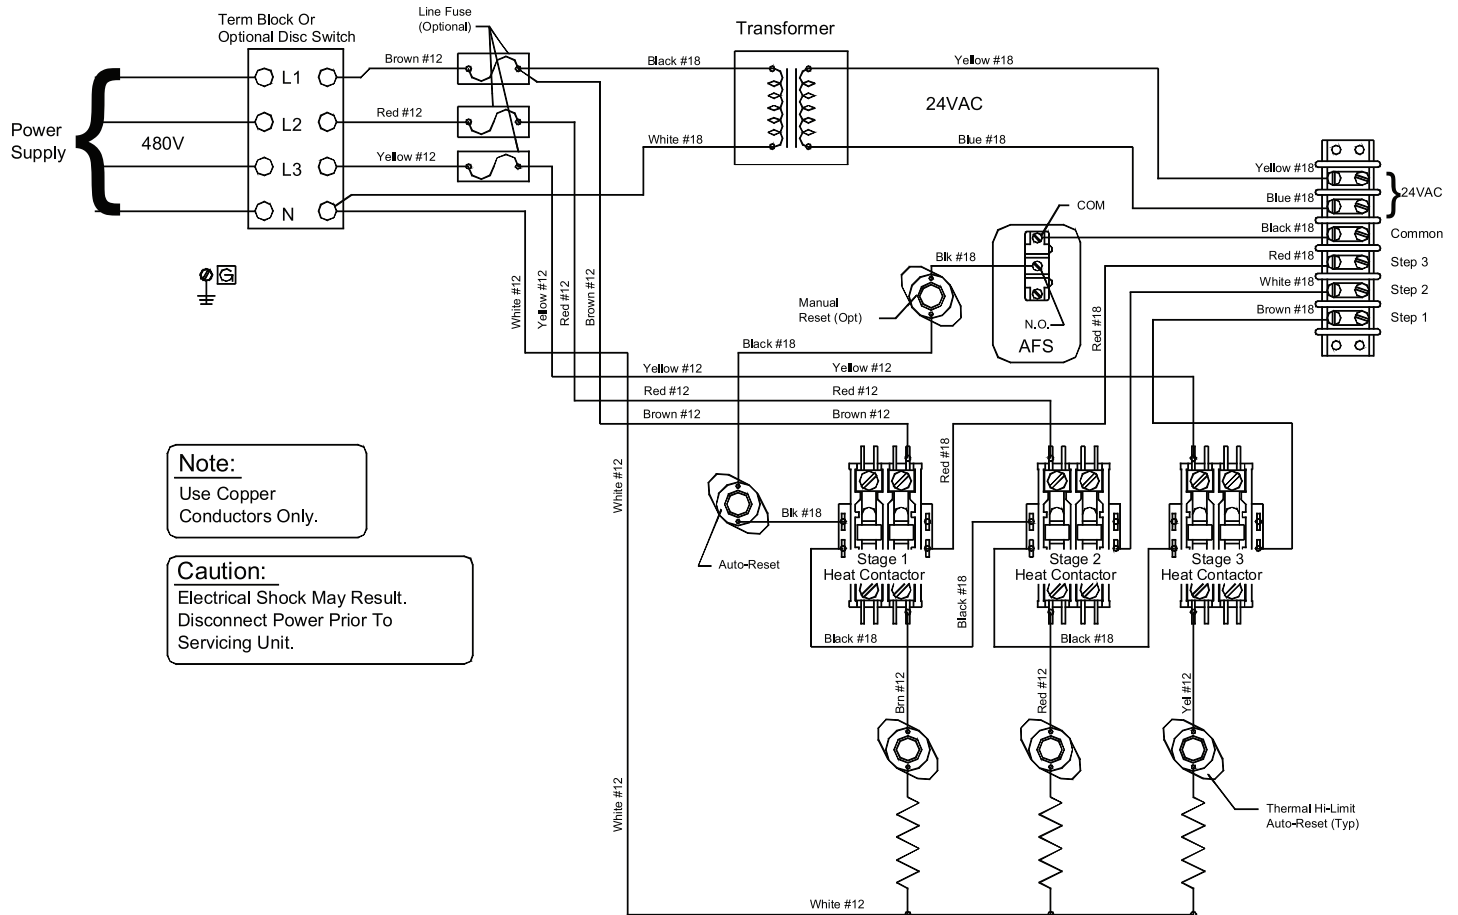

Figure 8
- Figure 8 Typical electronic single duct terminal with field mounted controls.